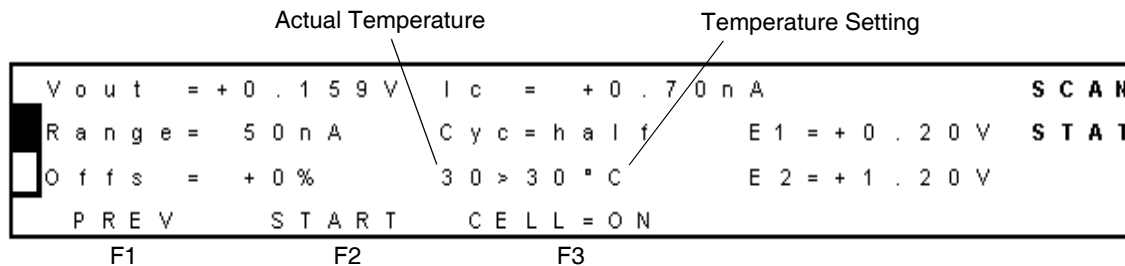

Figure 3-65 Scan Stat Screen
3. Select **F5 NEXT**. The Scan Stat screen appears (Figure 3-65).